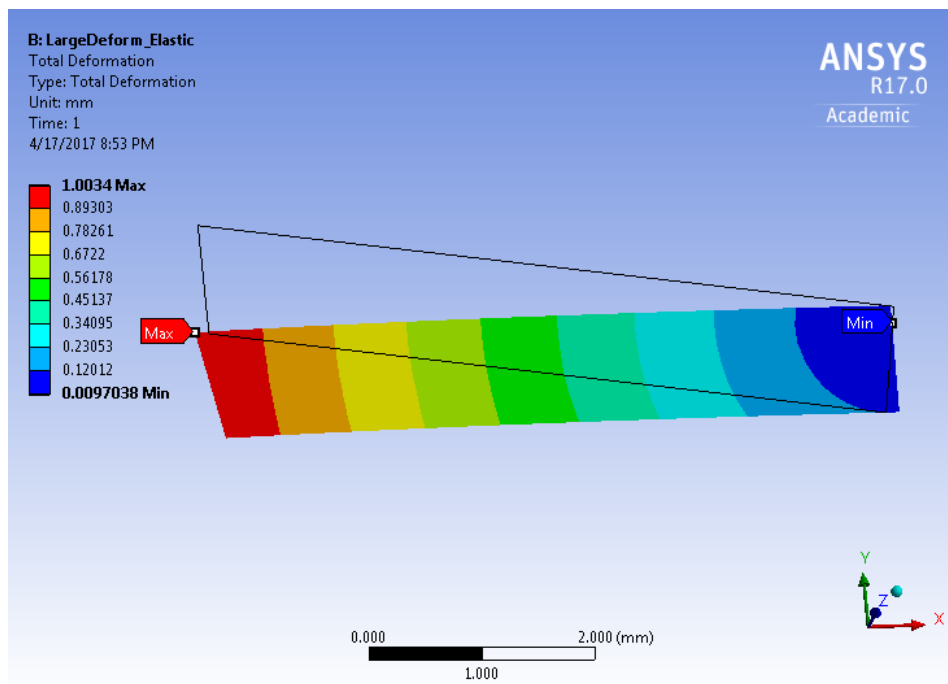

Figure A.5: Large Deformation, Linear-elastic- Total Deformation (t=1 s)
- **Large-deformation, elastic analysis:** $F_2=709\text{ N}$ (Figure A.5)